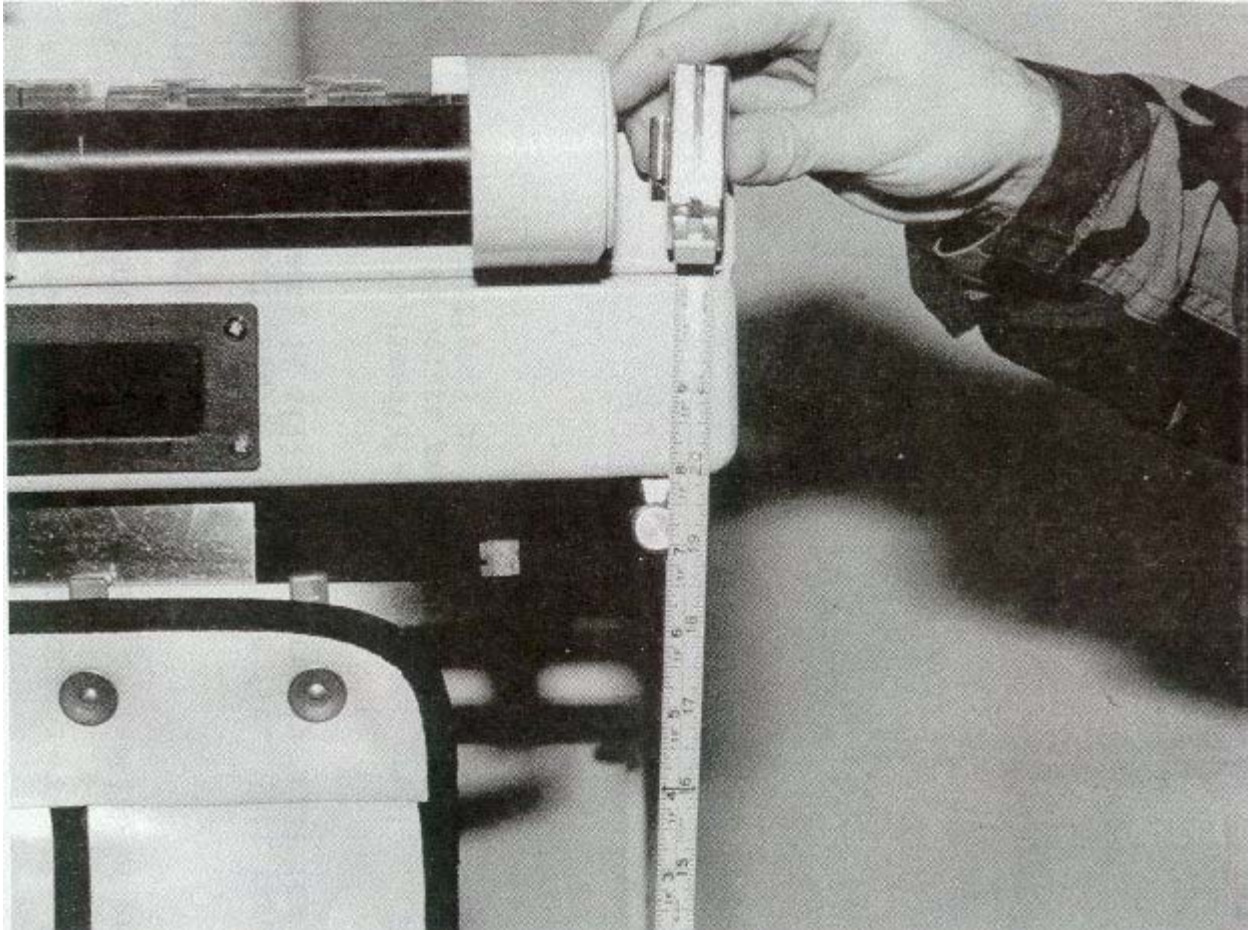

Figure 5-5. Measure the acceptable distance of 20 inches.
b. The minimum range, usually, is 17 to 20 inches with a one-inch leeway. In other words, 16 inches would be all right, but 15 inches or less would not be acceptable. In such a case, the patient would receive too much radiation. If the distance is greater than 21 inches, the patient would produce a less than optimal exam or study (see figure 5-5).